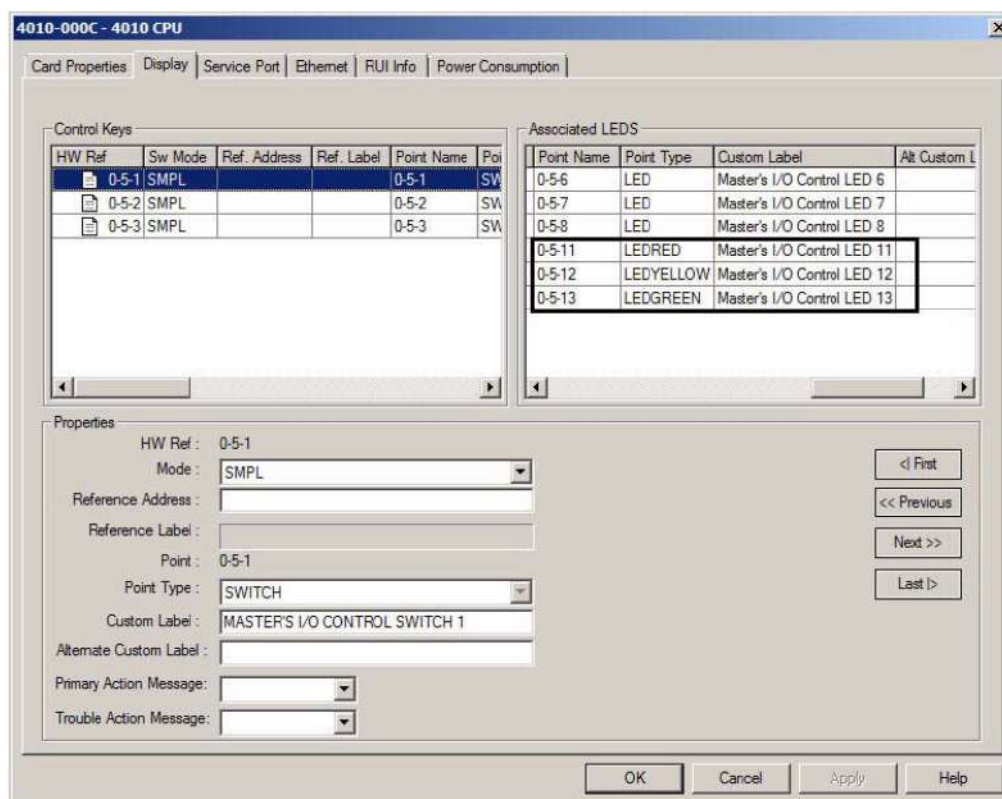

Figure 57: The Display tab: LEDs
1. Select one of the multicolor LEDs (0-5-11, 0-5-12, or 0-5-13) to program (Figure 57).